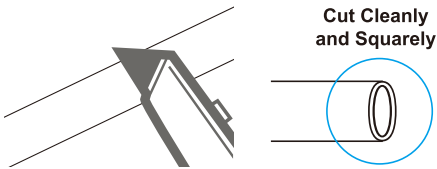

Figure 2
3. If the tubing is too long, cut it to a suitable length using a sharp utility knife or pair of scissors. Cut the tubing squarely and cleanly (Figure 2). Make sure the tubing is fully inserted.